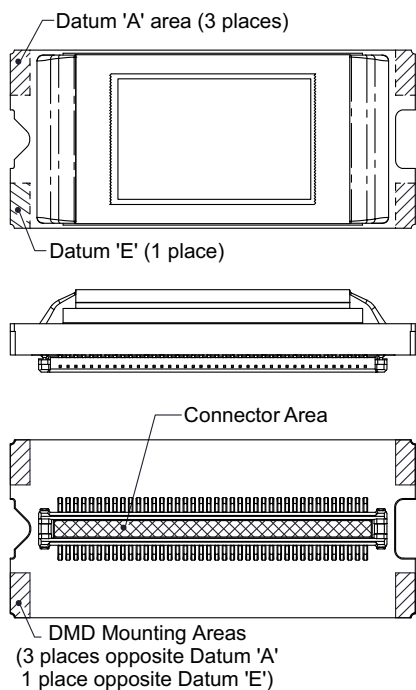
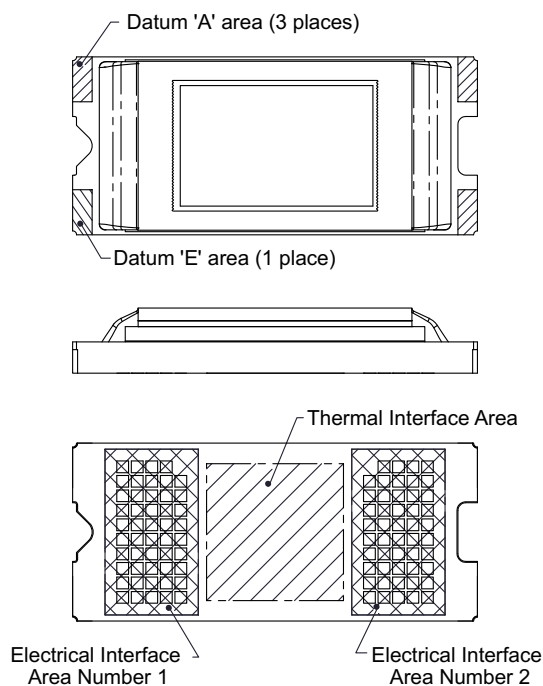

Figure 3. System Interface Loads for FQE
Figure 4. System Interface Loads for FQD
- (1) See Figure 3 and Mechanical, Packaging, and Orderable Information for diagrams.
- (2) See Figure 3 and Figure 4 for diagrams.